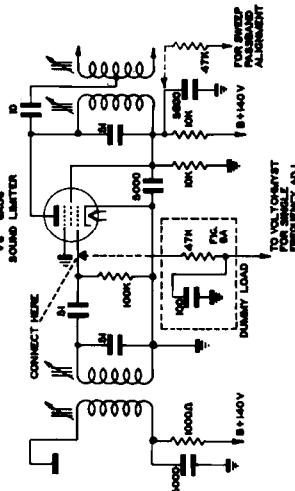

Figure 8 Dummy Load Connections To Limiter
- A. Use a 47 K resistor to the screen of the sound limiter as an isolating resistor between this point and the oscilloscope for sweeping generator measurements as shown in Figure 8 below. For single frequency alignment the use of a dummy load is needed as shown in Figure 8A.